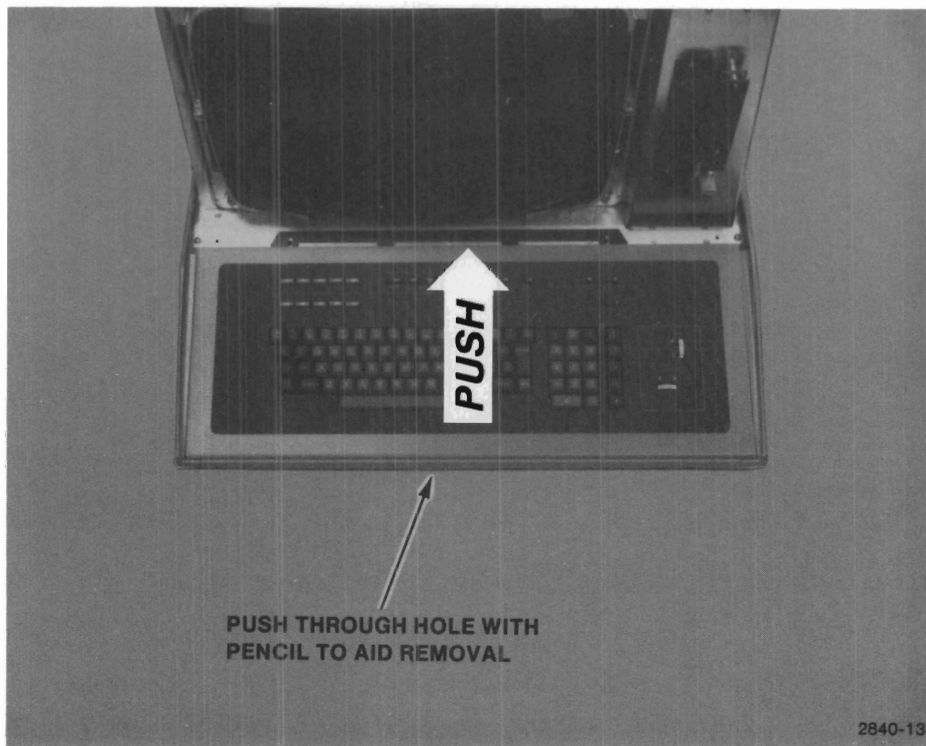

Figure 3-24. Keyboard Removal.
4. Use the pushing motion shown in Figure 3-24 to force the keyboard against the display until the bottom edge comes free from its groove. Now lift the keyboard out of the instrument.